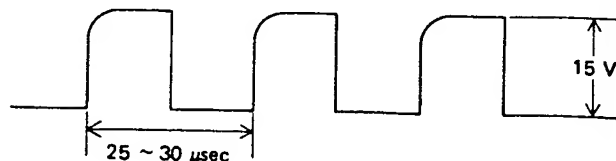

Fig. 7
2) Adjust VR1 to obtain maximum clock cycle of 30 μ sec. See fig. 7.